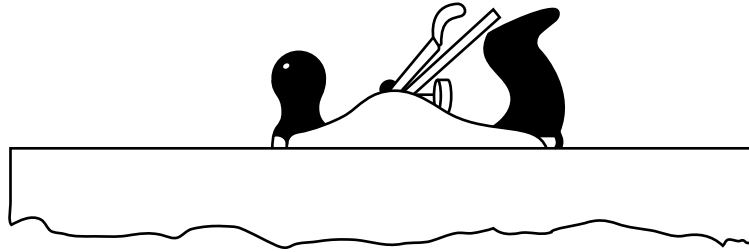

Fig. 1
- 1 Fig. 1 shows the edge of a piece of wood being planed.
- (a) Name the type of plane in Fig. 1.
- (b) Draw on the wood in Fig. 1 to show the correct grain direction.